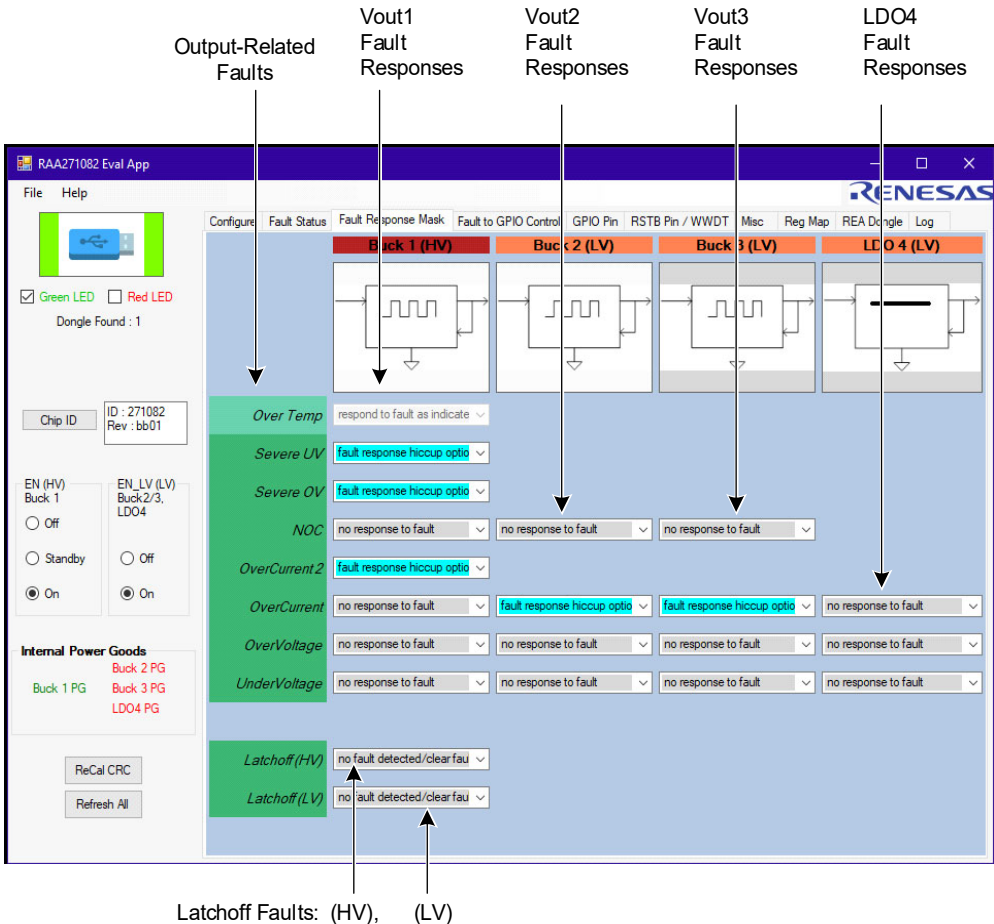

Figure 8. Fault Response Mask Tab with Labels
The Fault Response Mask tab shown in Figure 8 is selected by clicking the **Fault Response Mask** button in the Tab row. This tab controls the response of the device (shut down or ignore) for various faults. The fault response selections for Buck1, Buck2, Buck3, and LDO4 are laid out similarly to the Fault Status tab, with fault response grouped into columns by output and into rows by fault type.
At the bottom of the Fault Response Mask tab (Figure 8) are the **Latchoff (HV)** and **Latchoff (LV)** drop-downs. Unlike the other drop-downs on this tab, these act also as fault indicators. If a Latchoff event occurs on the HV (Buck1) regulator, the (HV) drop-down reads **latchoff detected** in yellow text with red background. This indicates that the HV Buck1 output is in a latched-off state, which prevents Buck1 from restarting. This state can be cleared by selecting **no fault detected/clear fault** from the drop-down, which allows Buck1 to restart from a latch-off condition.